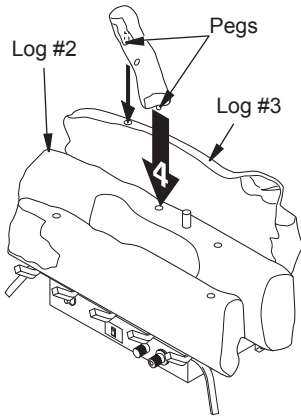

Figure 27 - Installing Crossover Log (#4)
4. Locate pegs on the bottom of crossover log (#4). Slide these pegs into the holes located in middle log (#2) and back log (#3). See Figure 27, page 18, for placement.